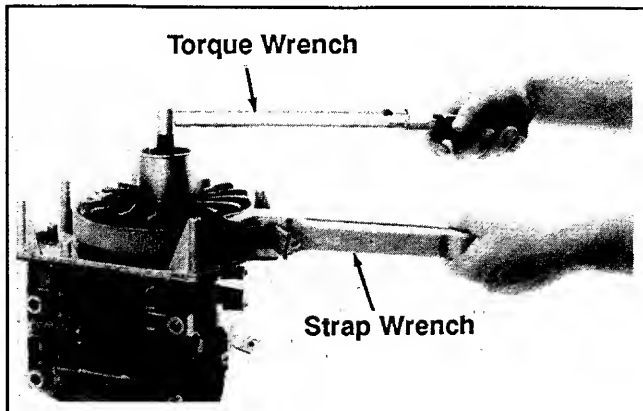

Figure 11-16. Tightening Flywheel Fastener.
3. Hold the flywheel with a strap wrench and torque the hex flange screw to **67.8 N·m (50 ft. lb.)**. See Figure 11-16.